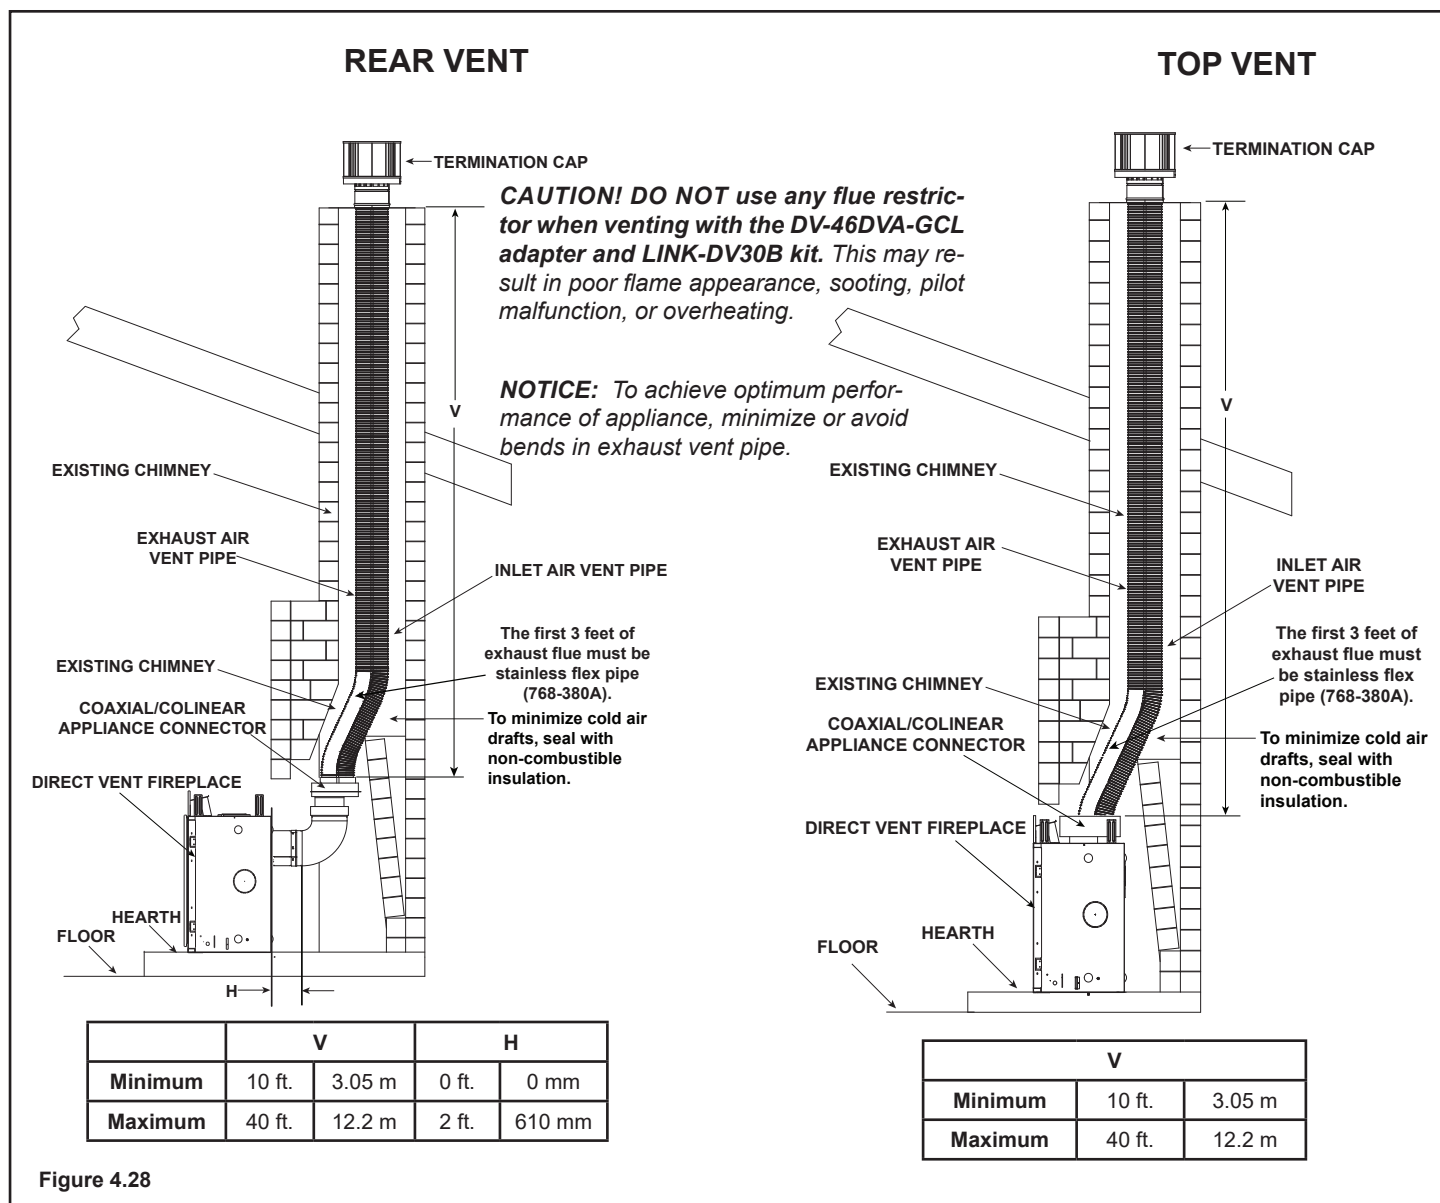

Figure 4.28
- Remove top seal cap and insulation if equipped. See Section 6, "Appliance Preparation." Attach the DV-46DVA-GCL adapter to the appliance starting collar with 3-1/2 in. self-tapping screws. See Figure 4.28.
- Remove the rear seal cap and insulation if equipped. Connect the DVP-2SL adapter to the vertically positioned elbow. Follow installation instructions included with DVP-2SL kit. Secure DV-46DVA-GCL adapter to DVP-2SL with 3-1/2 in. self-tapping screws. See Figure 4.28.